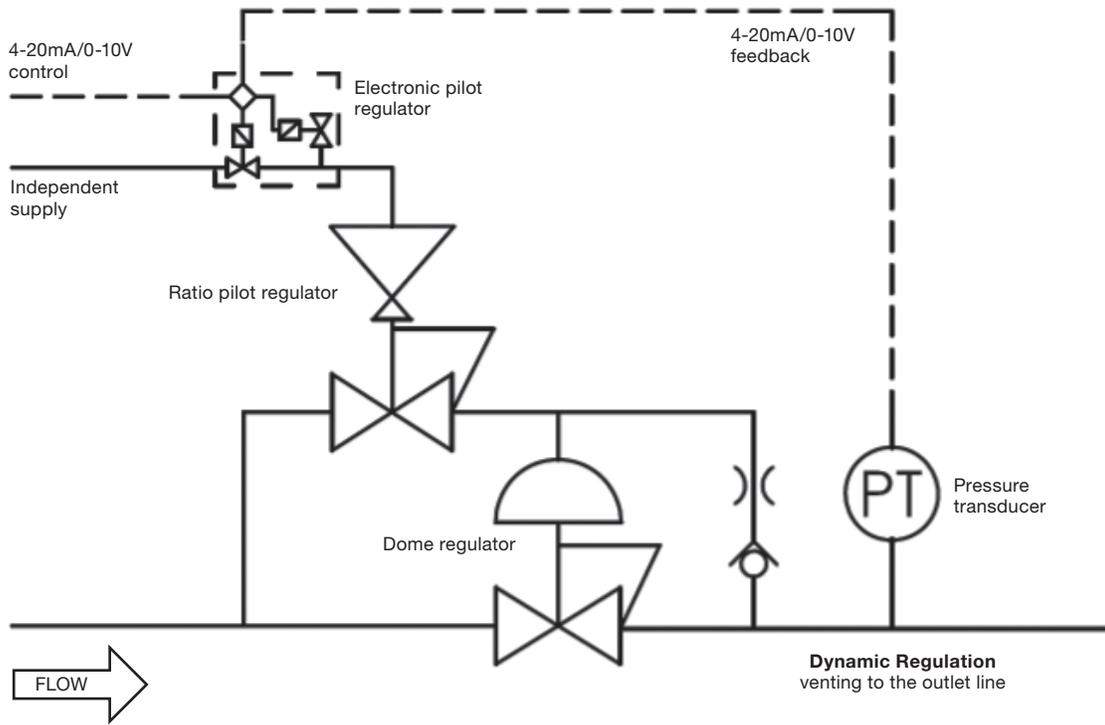

Figure 7
- **Ratio control.** In this setup a ratio pilot regulator, fed from the system pressure, is used to control the dome pressure. The ratio pilot can be controlled by an electronic regulator and pressure transducer combination (Figure 7) or by an external dome feed. The ratio pilot outlet pressure is proportionally larger than its dome pressure. This enables the main regulator to achieve full outlet pressure while being controlled from a low-pressure supply. This setup is not suitable for liquid applications.